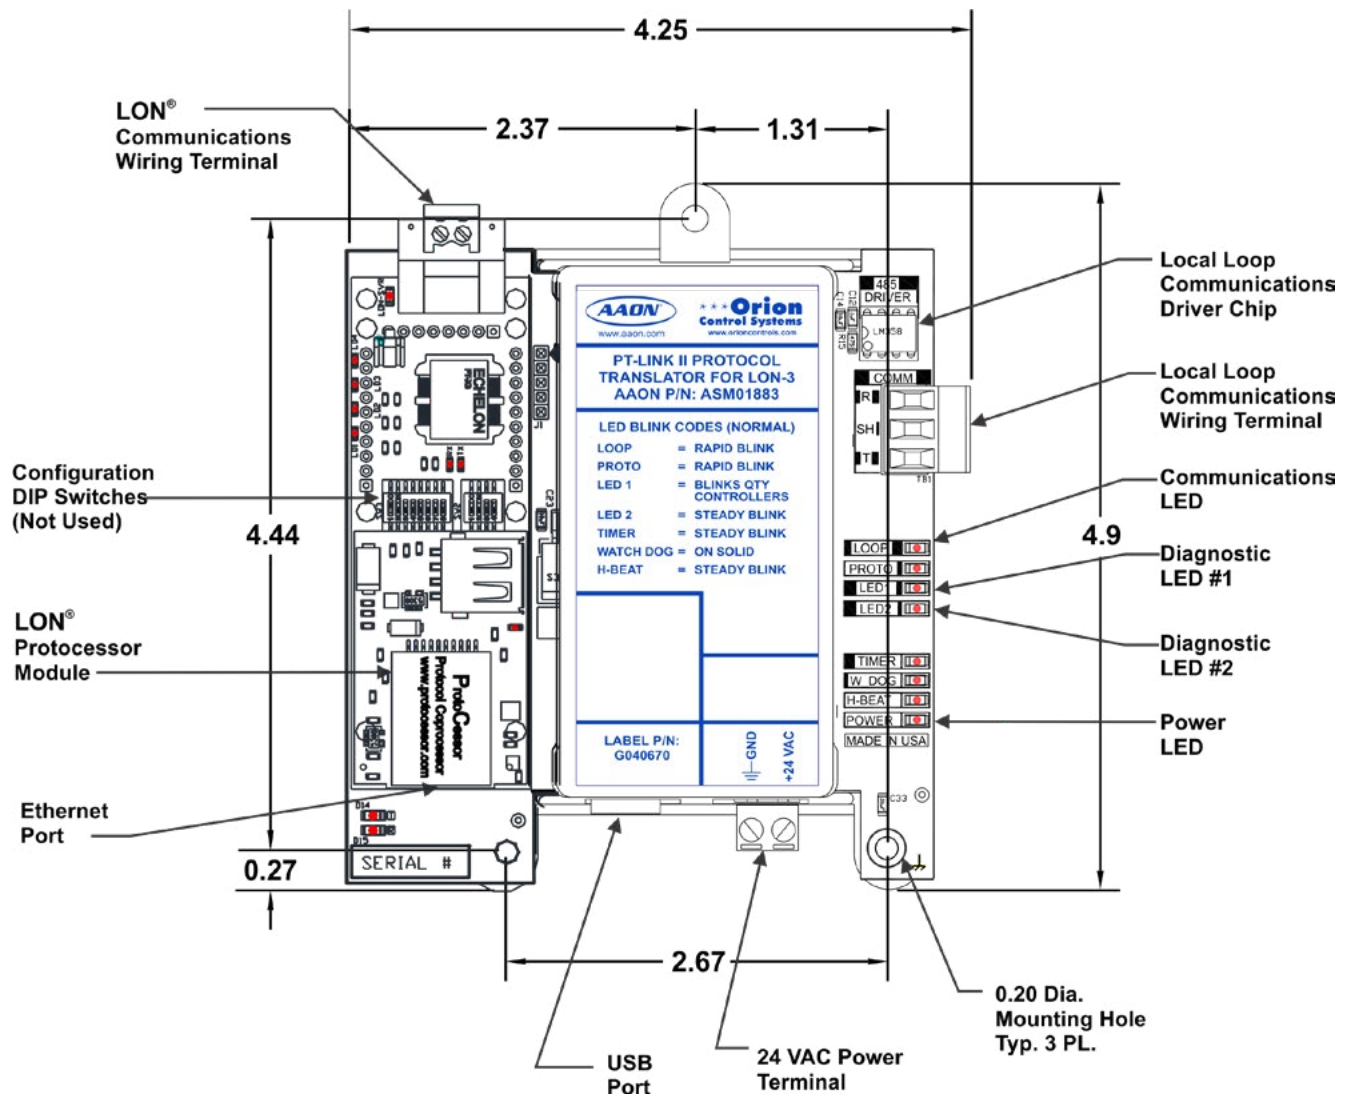

Figure 1: PT-Link II LON-3[®] Dimensions and Components
1. Familiarize yourself with the PT-Link II components (Figure 1). **NOTE:** The DIP Switches should be left in their default position which is all OFF. They are not used in this application.